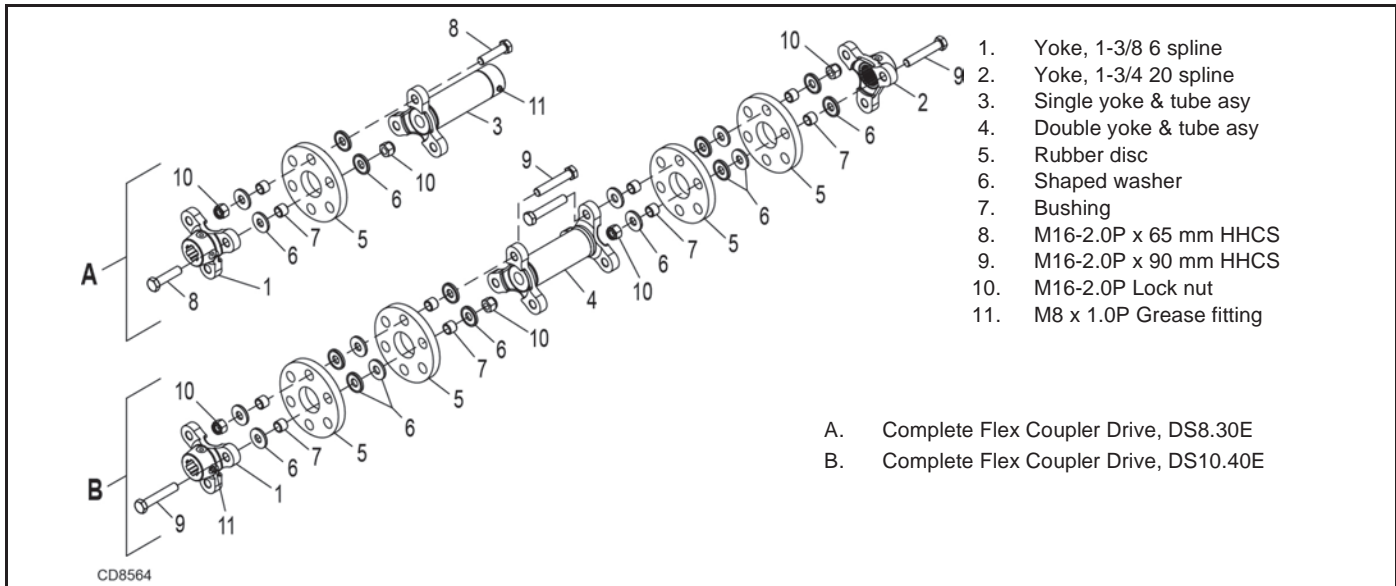

Figure 22. Side Drive Assembly
Reassemble shaft as shown in Figure 22. End yokes (1 & 2) do not bolt directly to center shaft (4). Use the special formed washer (6) and bushings (7) between the rubber discs (5) and under bolt head or nut near rubber disc. Tighten the nuts (10) evenly until the formed washers (6) are slightly embedded into the rubber discs. Rubber discs (5) will warp and twist if bolts are overtightened. Tighten set screws on center gearbox shaft only. Grease opposite end of side drive through grease fitting (11) located on end yoke.
- To make crossbar removal easier, remove blades as shown in Figure 22.